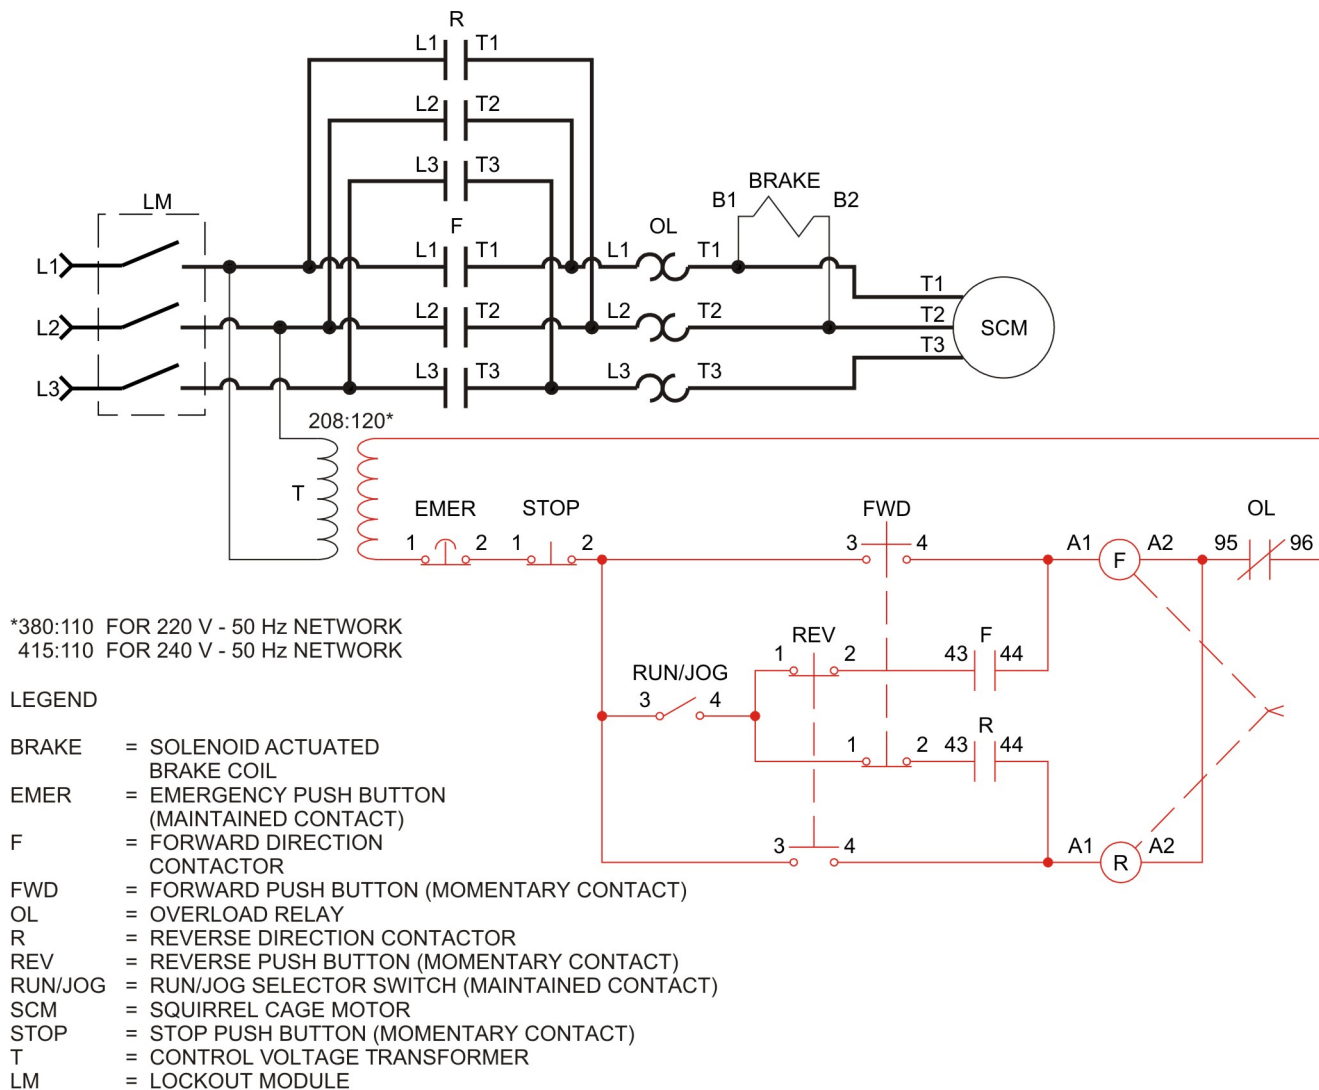

Figure 4-10. Reversing starter circuit with selector switch jogging.
Many other configurations of reversing circuits with jogging can be implemented. For example, a selector switch may be utilized to switch between jogging and running modes. Such a circuit is shown in Figure 4-10 and is proposed as an additional exercise.
*To fulfill the demands of the client, implement the Figure 4-10 circuit and verify that it corresponds to what the client wants.*